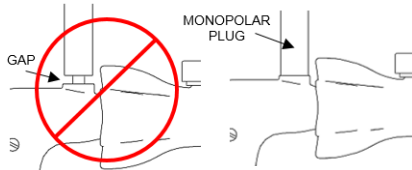

Figure 1
- The electrosurgical cord must cover the Monopolar Post. - (see Figure 1)